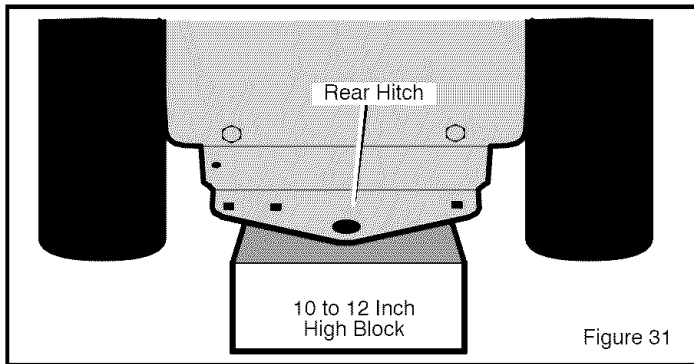

Figure 31
2. Set the **rear hitch** on a **10 to 12 inch block**. The block must be high enough to raise the rear wheel off the ground (see Figure 31).